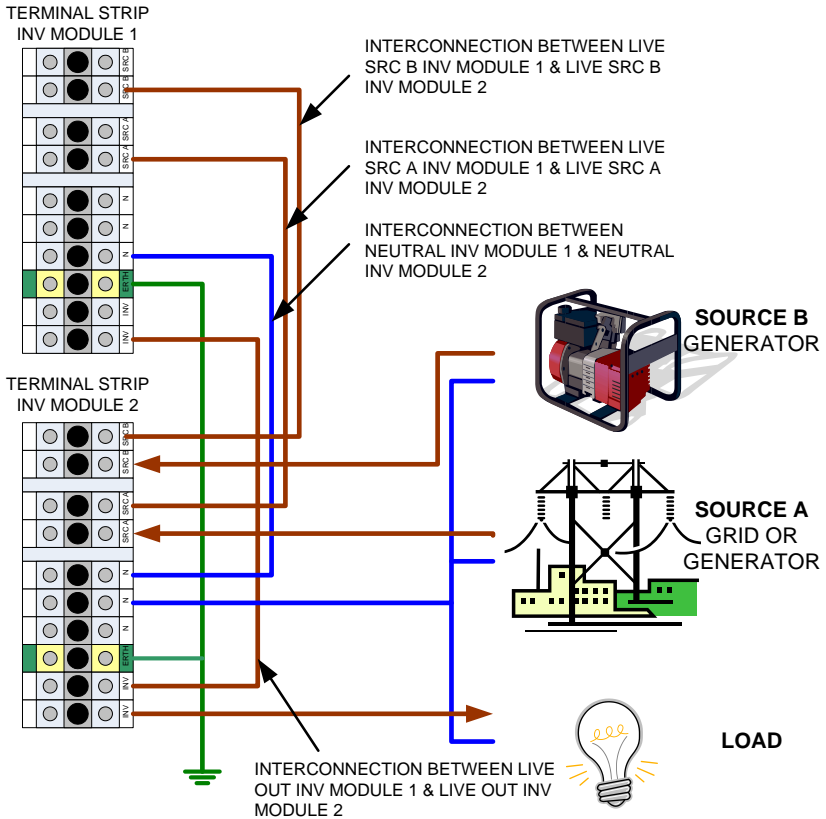

Figure 22: Single Phase AC Input/Output Connections for Multiple Inverter Modules
- b)** Single phase with multiple inverter modules (see Figure 22). A single phase system can have a maximum of three Inverter Modules connected in parallel. If two inverter modules are installed use the lower module as the input/output module. If three inverter modules are installed use the middle module as the input/output module.